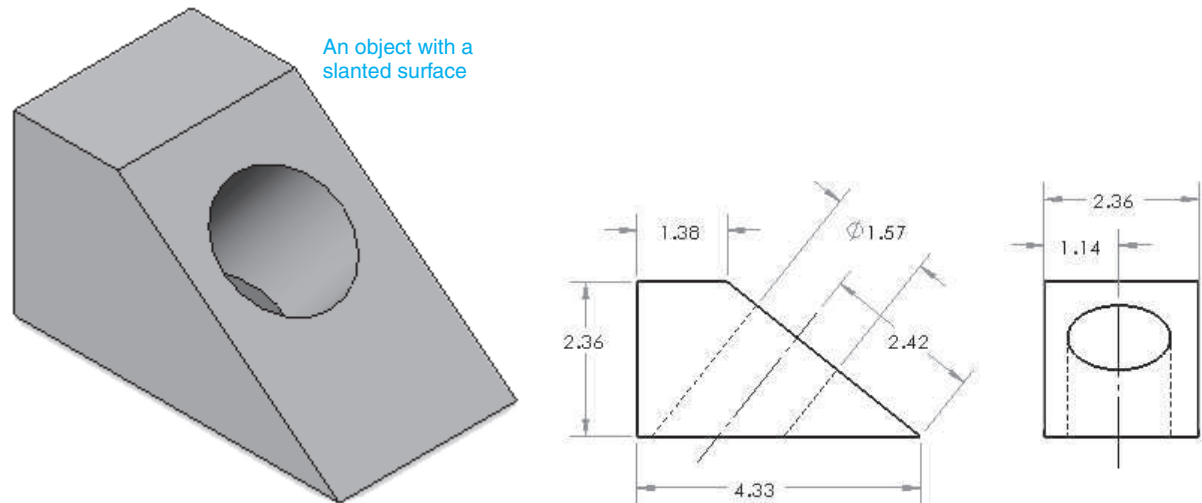

Figure 4-58
Auxiliary views are orthographic views used to present true-shaped views of a slanted surface. In Figure 4-58 neither the front nor the side view shows a true shape of the slanted surface. A top view would show a foreshortened view. Only a view taken 90° to the surface will show its true shape.
- 1 Draw the model with a slanted surface shown in Figure 4-58.